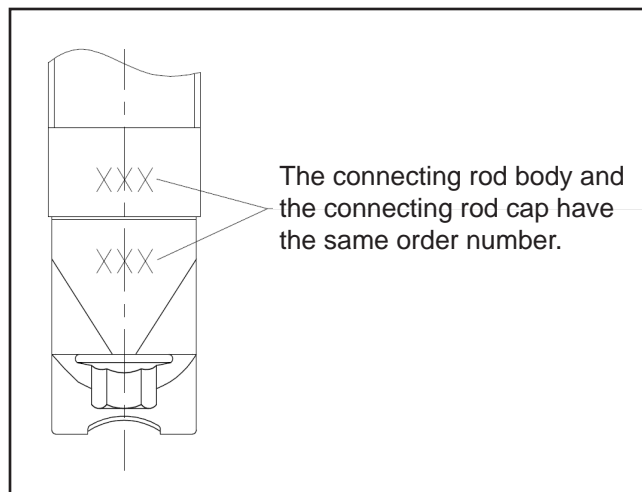

Figure 40
**NOTE:** Each cap is stamped to match the connecting rod (Figure 40).